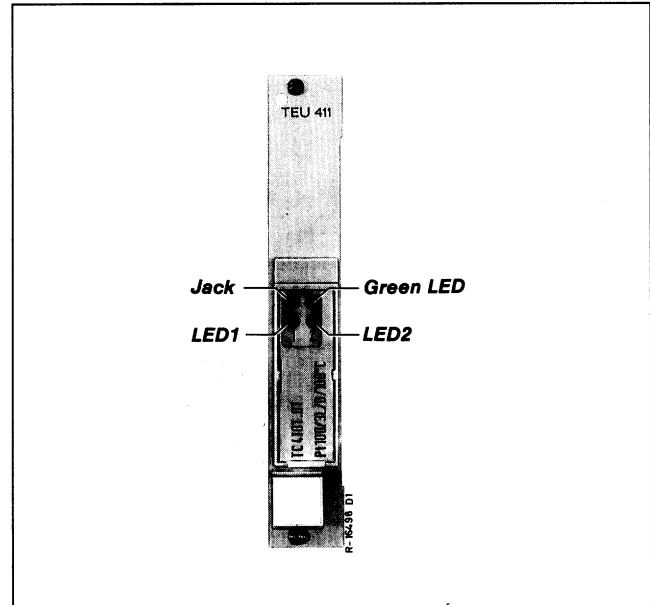

Fig. 9 Front view of 19" plug-in card, surface-mounting case IP 20
1. Insert test connector / plug-in jumper into *jack* / jumper 111 (see Figs. 9 and 10).